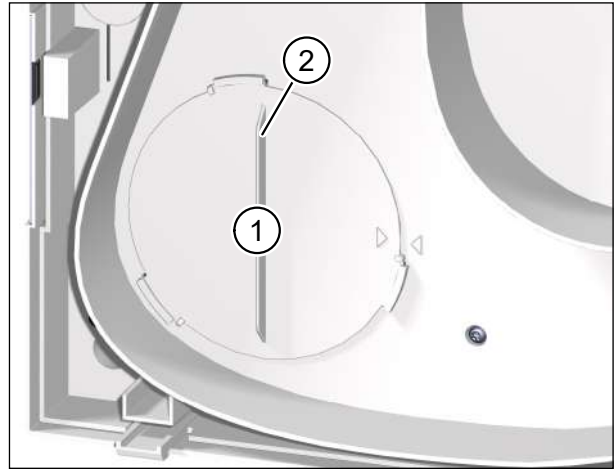

Fig. 17: Removing the outdoor air filter
- ▶ Turn the filter cover (item 1 in Fig. 17) using the hand grip (item 2 in Fig. 17) anti-clockwise until the filter cover is released from the retainers.
- ▶ Check the position of the filter cover. The hand grip must be vertical and the arrow on the filter cover must line up with the arrow for the locking position (see Fig. 17 on page 34).